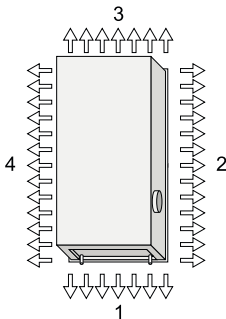
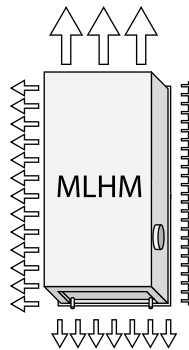

Figure 3. Top view, nozzle setting, PARASOL two-module unit, sides 1-4.
Figure 4. Nozzle setting example, PARASOL two-module unit - MLHM.
*) All four sides on the unit can be set individually. The designation of the nozzle setting follows the order according to Figure 3. See Figure 4 for example.